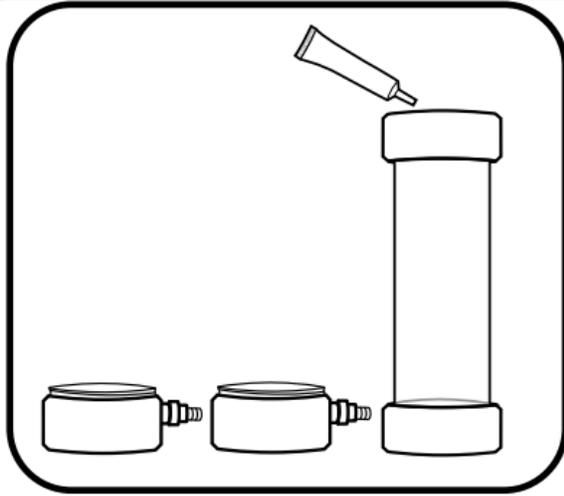

Figure 47. Inspect & Grease Flow Cell O-Rings
**STEP 6** | Inspect and grease the flow cell O-rings (Figure 47). Make sure that the O-rings and threads are clean and free of any particles such as sand, grit, or debris. Apply a thin coat of Krytox grease to the two O-rings on the flow cell tube.